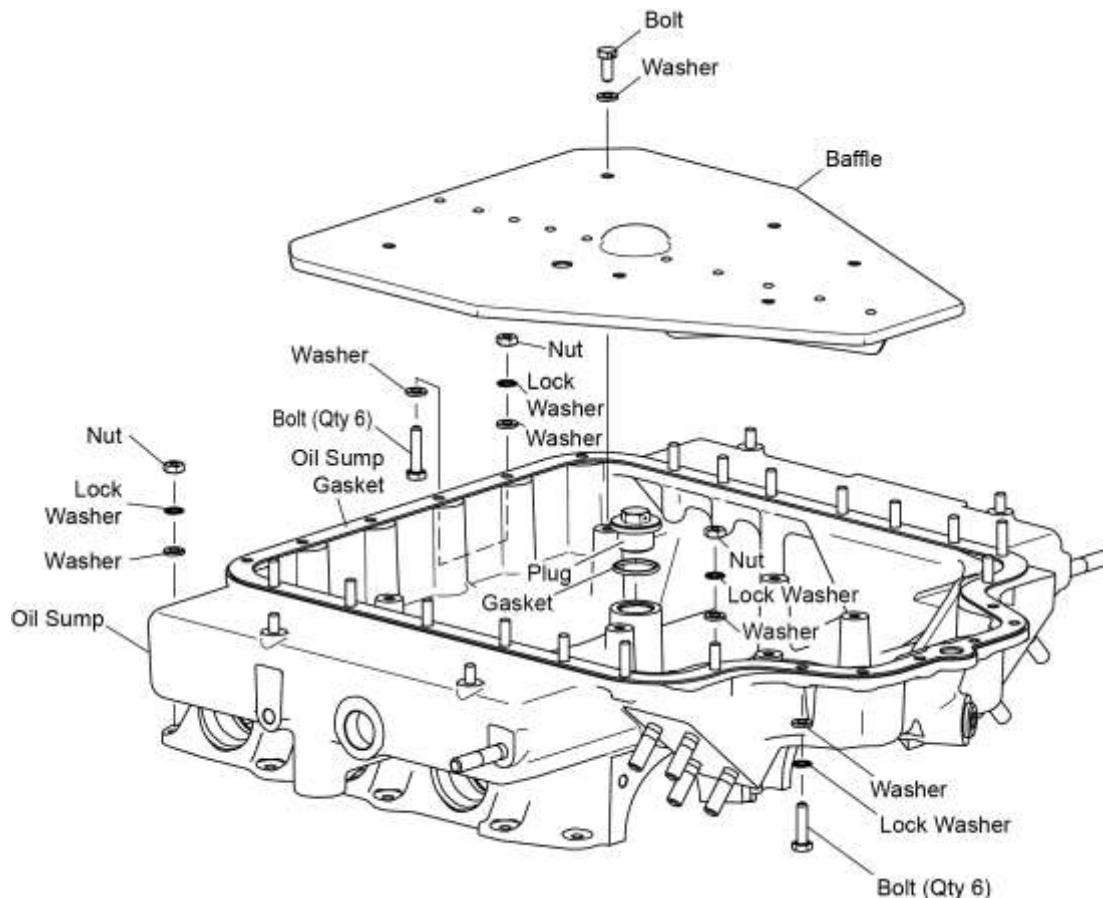

Figure 8
D. Remove the six bolts, six nuts, six lock washers, 12 washers, and six nuts (Figure 8) from the accessory housing end of the oil sump. Discard the lock washers.
- F. While one person holds the oil sump, remove the 15 nuts, 15 lock washers, and 15 washers from the left and right sides of the oil sump (Figure 8).
NOTICE: If studs are not already installed on the oil sump, install new studs in their corresponding location per Figure 8.
- F. Install a new oil sump gasket in the oil sump groove (Figure 8).
- H. Examine all of the oil sump fasteners identified in Figure 8, that were to be kept separate when the oil sump was removed. Make sure the bolts, studs, and nuts are not damaged are intact and have no stripped threads. Replace any damaged or stripped fasteners.
I. While one person holds the oil sump, install the 15 nuts, 15 new lock washers, and 15 washers on the left and right sides of the oil sump (Figure 8).